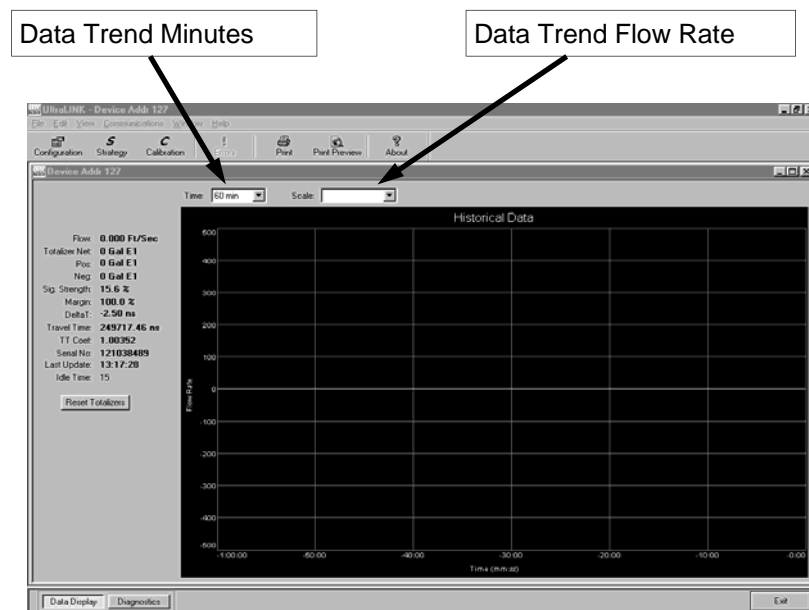

Figure 4.1
2. The first screen is the “RUN-mode” screen, See **Figure 4.1**, which contains real-time information regarding flow rate, totalizer accumulation, system signal strength, diagnostic data and the flow meter’s serial number. The indicator in the lower right-hand corner will indicate communications status. If a red **ERROR** is indicated, click on the Communications button on the top bar. Click on Initialize. Choose the appropriate COM port and interface type. Proper communications are established when a green **OK** is indicated in the lower right-hand corner of the PC display.